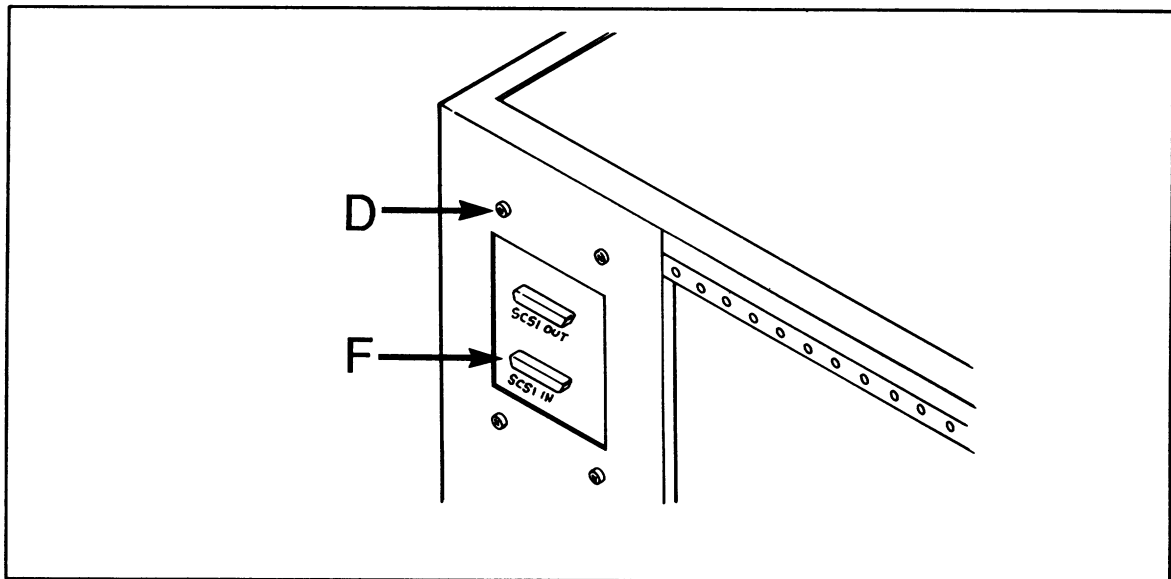

Figure 2-4 *Tape Drive Rear Screws*
8. Refer to figure 2-4. Align tape drive option tray **F** with the four screw holes. Install four screws **D** removed in step 4 to secure the tape drive option tray **F** to rear of CPU enclosure.